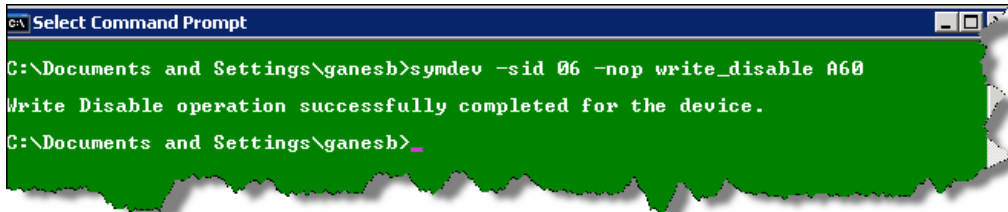

Figure 31. Write disabling R1 devices impacted by the failback procedure
- The personality of the devices needs to be swapped, and the replication restarted before the failback process can begin. The personality of the devices can be swapped only if the device with the R1 personality is changed to a read-only state. The command, “symdev -sid <SN> -nop write_disable dev <dev #>”, where <SN> is the serial number of the DMX array at the protection site, and <dev #> is the R1 device, write disables the appropriate devices at the protection site. This is shown in Figure 31 for the device pair associated with the datastore srm_async.